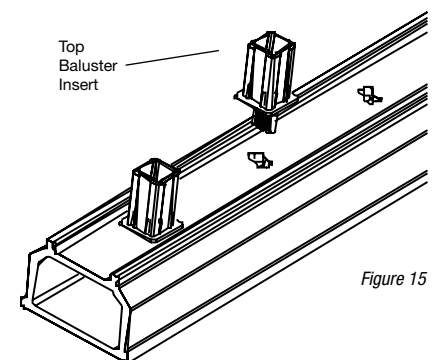

Figure 16
19. Place the top rail between the post and above the top end of the balusters (Figure 16). Starting at one end of the rail, reposition top end of the baluster to allow the top baluster insert to engage it. Repeat for each baluster.